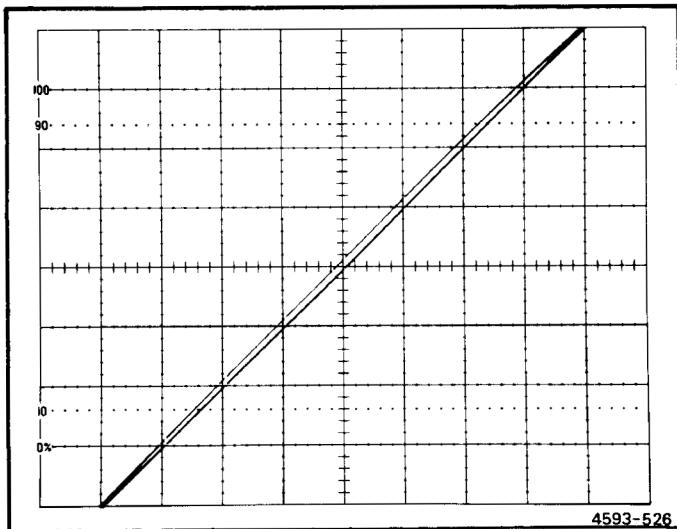

Figure 5-1. Typical display when checking X-Y phase compensation.
- b. **CHECK**—crt display for a Lissajous display with separation of 0.28 division or less (indicates 2° or less phase shift; see Figure 5-1).